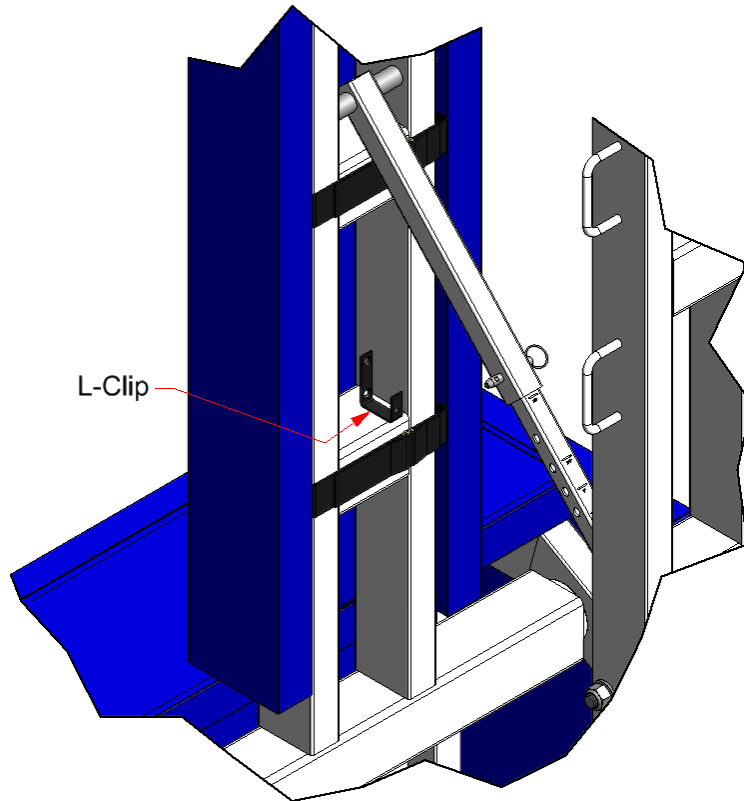

Figure 9-12: L-Clips fastened to the front pad before U-Clips.
- b. Secure the upright pad in place by fastening an L-Clip upside down to the inside surface of the upright pad, such that the clip rests on one of the horizontal supports of the upright (Figure 9-12).
- d. Secure the upright pad in place by fastening an L-Clip upside down to the inside surface of the upright pad, such that the clip rests on one of the horizontal supports of the upright (Figure 9-12).